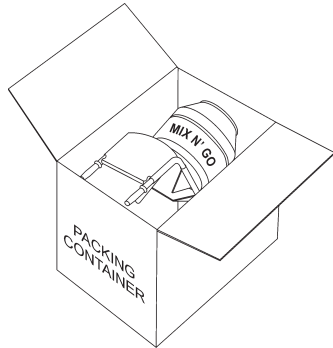

Figure 6. Packing Container
1. Remove the mixer drum and associated components from the packing container (Figure 6). Match the components against the parts list to make sure that they are all accounted for.